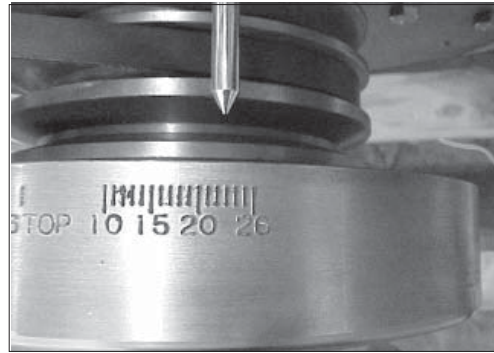

Figure 12. Pointer and Crankshaft Damper
- c. Align the injection timing stamp line (to data plate specification) on No. 1 cylinder on the crankshaft damper with the pointer by slowly rotating the crankshaft in the clockwise direction. (see Fig. 12).
- f. If the injection timing stamp line on the crankshaft damper is aligned with the pin corresponding to the data tag specification, it should be correct, (see Fig. 12).